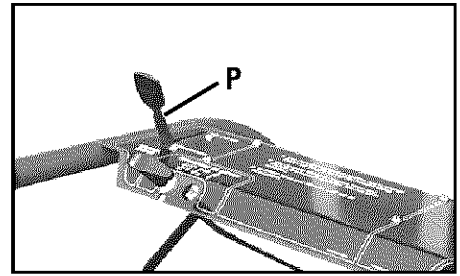

Figure 2-12: Attach Wheel Gear Lever.
- Insert the Wheel Gear Lever (P, Figure 2-12) up through the control panel that is labeled "WHEEL GEAR."